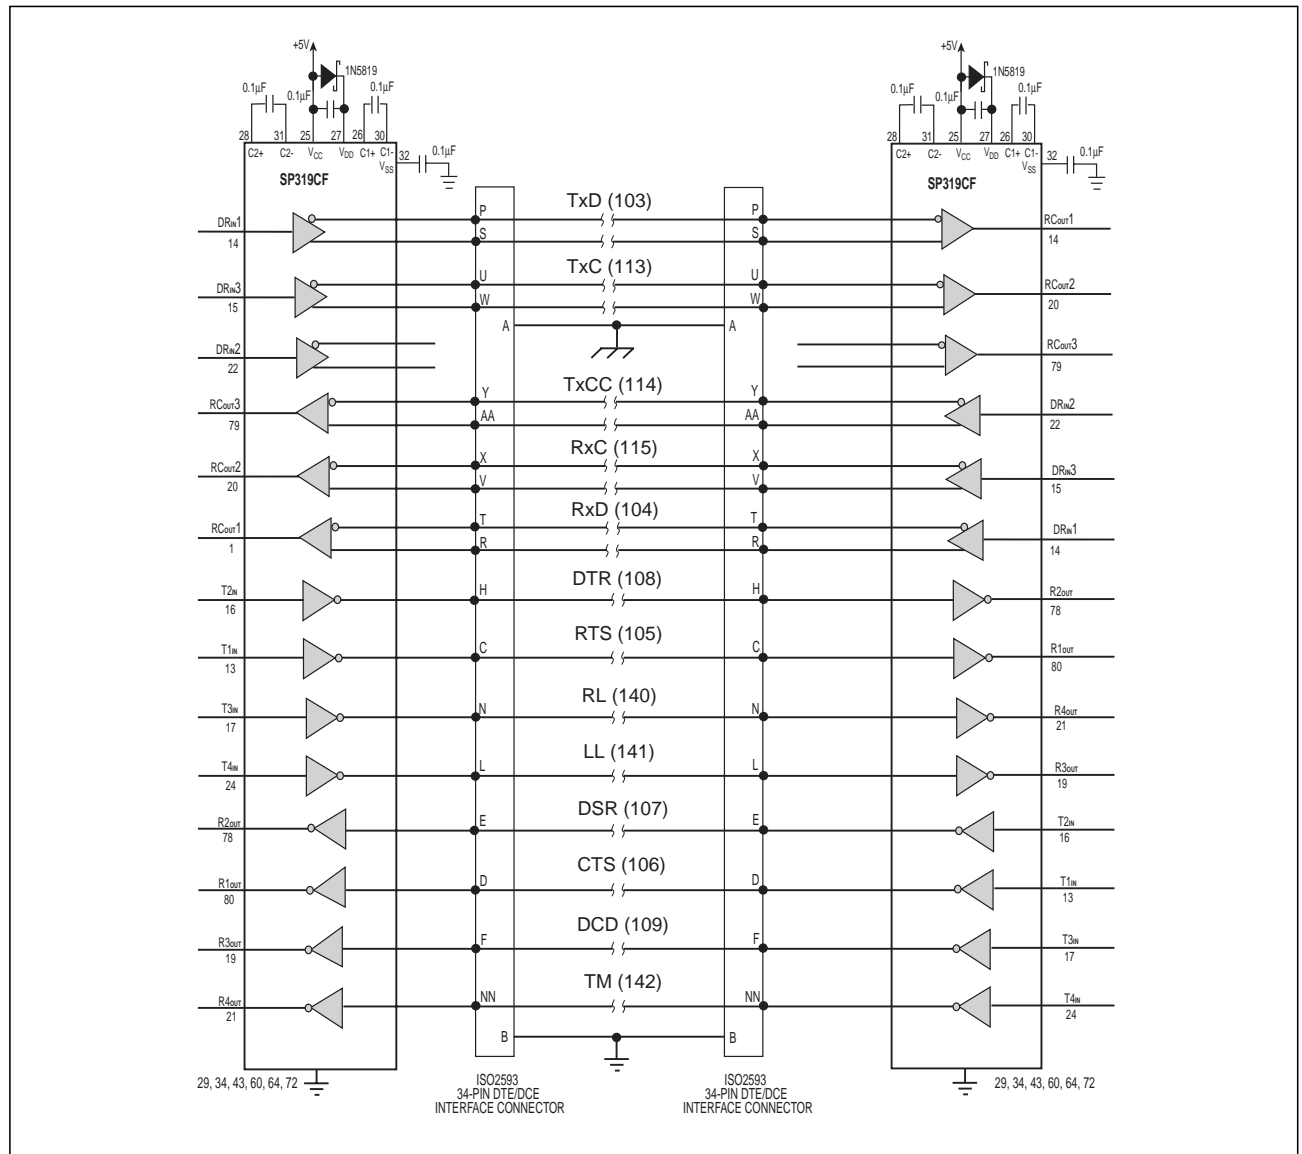

Figure 25. Typical DTE-DCE V.35 Connection using the SP319
The **SP319** is a single chip device that can implement a complete V.35 interface. Three (3) V.35 drivers and three (3) V.35 receivers are used for clock and data signals and four (4) RS-232 (V.28) drivers and four (4) RS-232 (V.28) receivers can be used for the control signals of the interface. Figures 25 and 28 show the **SP319** configured in DTE and DCE applications along with an ISO-2593 pin out.